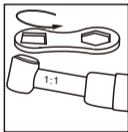

Fig. 15.2
- ② Use the attached wrench to remove the cap[Fig.15.2].
- ③ Use the bur to push out the cartridge.
- ④ Insert the new cartridge into handpiece head,being sure the small raised part aligns the groove inside the front of the head,to insure proper fit.